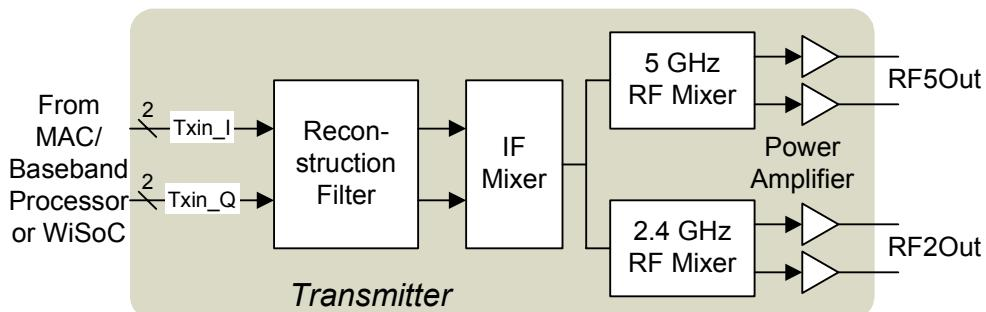

Figure 3-3. RF Transmitter Functional Block Diagram
3.2 Transmitter (TX) Block
The transmitter converts baseband I and Q inputs to 5 GHz RF outputs as shown in Figure 3-3. The inputs of the transmitter are current outputs of the DAC in the AR5212. These currents are low-pass filtered through on-chip reconstruction filter to remove spectral images and out-of-band quantization noise. The I and Q signals are converted to RF signals using an integrated up-conversion architecture. The intermediate frequency (IF) mixer converts the baseband signals to an intermediate frequency. The radio frequency (RF) mixer converts the IF signals into radio frequency